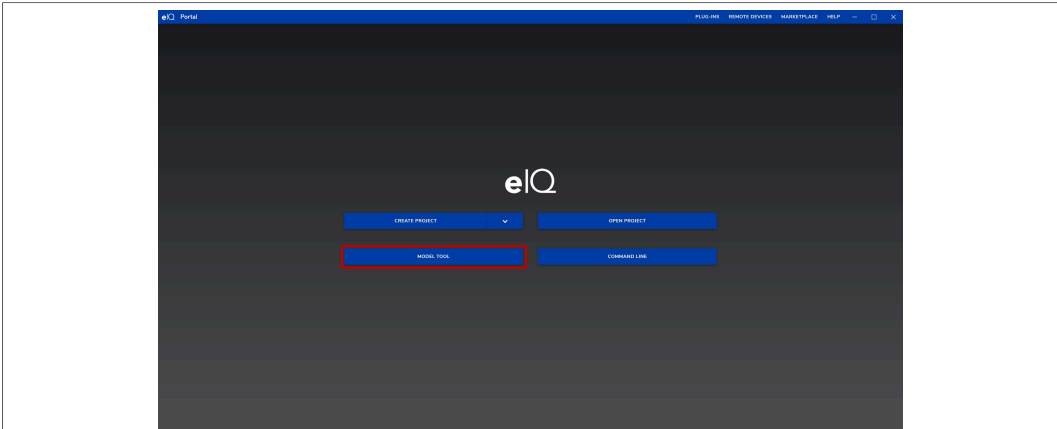

Figure 4. Open eIQ Model Tool from eIQ Portal
6. Open "eIQ Model Tool" by clicking the **Model Tool** button inside "eIQ Portal" as shown in Figure 4.
1. Open "eIQ Model Tool" by clicking the **Model Tool** button inside "eIQ Portal" as shown in Figure 4.
1. Open "eIQ Model Tool" by clicking **Model Tool** button inside "eIQ Portal" as shown in Figure 4.